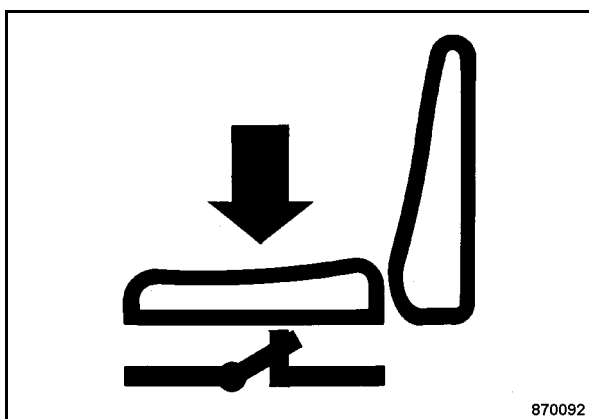

Fig. 46
- Sit on the driver's seat (Fig. 46) and fold down the armrest.